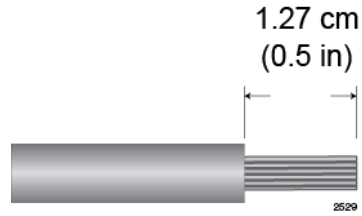

Figure 129. Stripping the Power Wires
1. Prepare adequate lengths of two stranded 8 AWG power wires by stripping them as shown in Figure 129 on page 204.